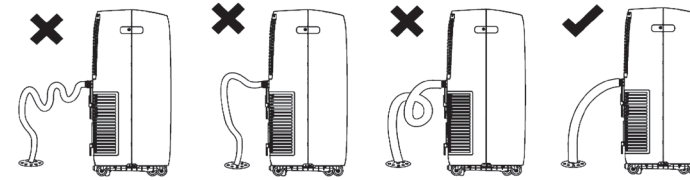

Fig 16.1
- Make sure that there are no kinks or knots in the garden hose (Fig 16.1).